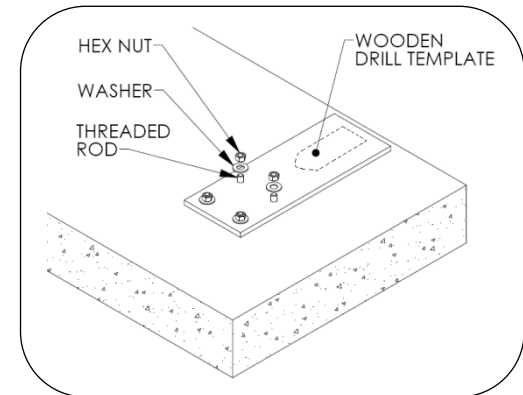

Fig. 5 – Set anchors
4. Set anchor rods using the drill template, see Fig. 5. Allow adhesive to cure.